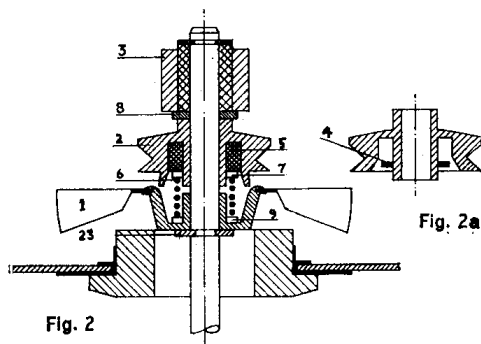

Fig. 2
The machine design automatically meets all specifications as long as the components are not damaged, and all adjustments are reduced to a bare minimum. Motors are now fitted with an overload protection device which functions as follows (Fig. 2) (early motors shown in Fig. 3). The fan (1), the drive pulley (2) and the fast wind pulley (3) are fitted to the motor spindle
Figs. 2 and 3, motor overload protection, drive pulley cross-section. Left, belt drive. Right, test networks (TN 1-6)